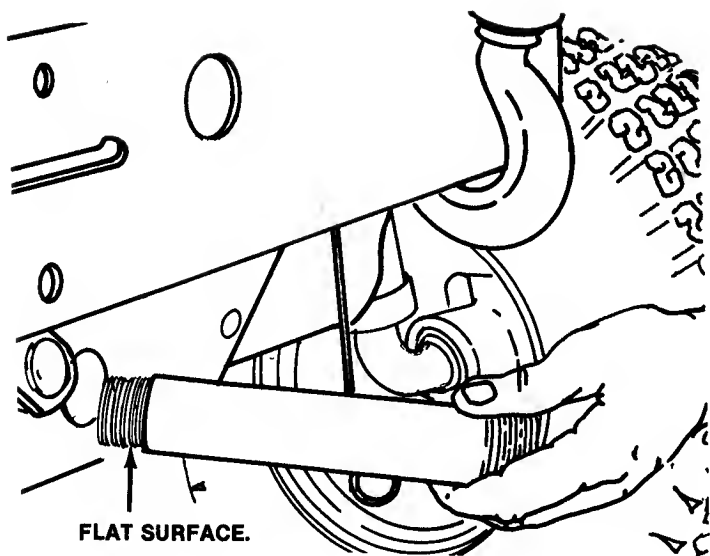

FIG. 2.25 — REMOVING FRONT AXLE
7. Raise tractor enough to remove pressure on axle and remove mounting sleeve. Fig. 2.25.
3. Install axle mounting sleeve with flat on sleeve down and rearward. Fig. 2.25.